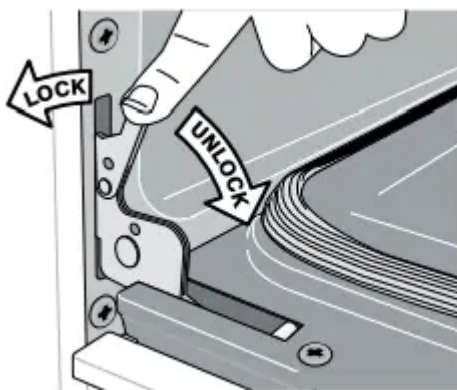

Fig. 2
4. Push the door hinge locks up towards and into the oven frame for both left and right oven door hinges to the locked position (See Fig. 2).